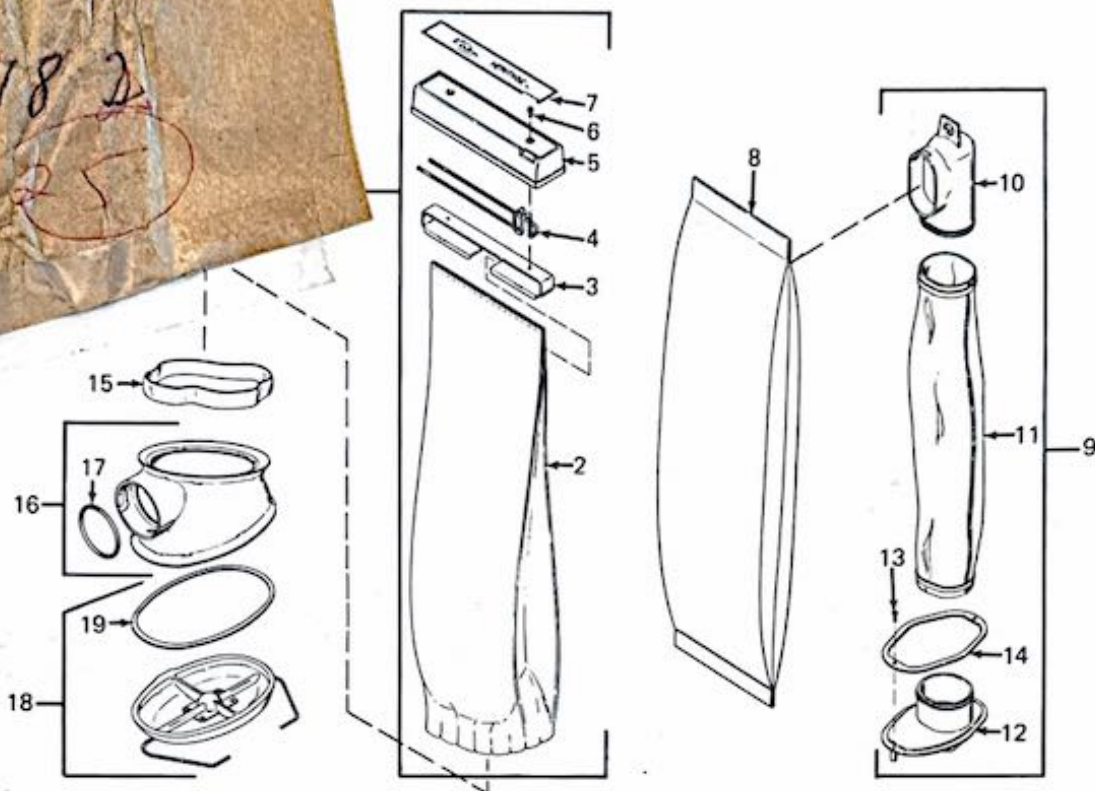
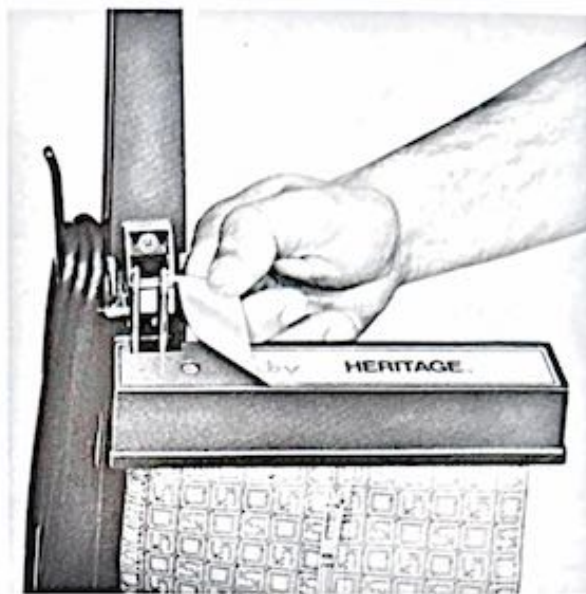
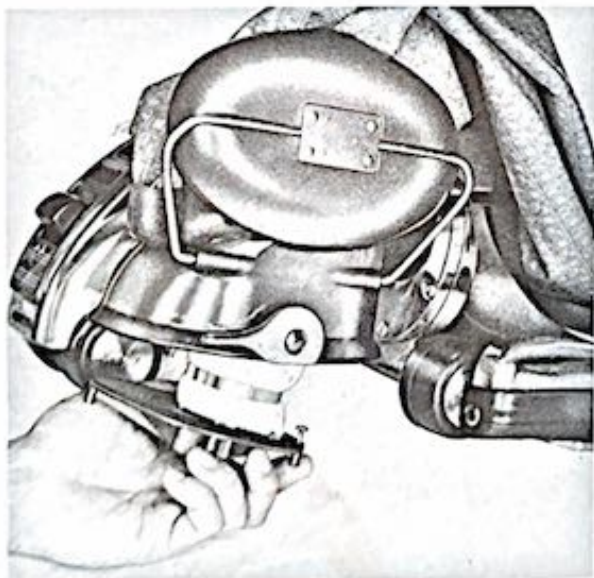

Figure 4-1. HERITAGE Sani-Em-Tor and bag group, with disposable bag, exploded view
Figure 4-2. Label on top cover and mounting screw
Figure 4-5. Filler tube and adapter cover through bottom of Sani-Em-Tor body
The exploded view illustration in figure 4-1 shows all available parts for the Sani-Em-Tor and Bag Group with disposable bag and adapter of the HERITAGE. The parts are drawn in proper relationship to each other to serve as an aid to disassembly and reassembly. Note the following:
(1) Unscrew the Sani-Em-Tor to remove it from the motor unit.
(2) Lift label (7, fig. 4-1) to access cover mounting screws (6) as shown in figure 4-2.
(3) Remove both screws to remove top cover (5, fig. 4-1), wire hanger (4), and support hanger (3) from bag (2).
(4) Pull up bag guard (15), and slide it along and off the bag. Stretch the spring in the bottom of the bag and remove the bag from the Sani-Em-Tor.
(2) Slide bag guard (15, fig. 4-1) over the bag and pull it down around the bag bottom to seal the bag to the Sani-Em-Tor.
(3) Slide the legs of support hanger (3) between the folds on each side of the bag. Install
a. Removal. If a pocket bag is used on the unit, the bag must be removed as described in paragraph 4-2. If a zipper bag is used, detach wire hanger (4) from hanger bracket (4, fig. 3-1), unzip the bag and fold the sides out of the way to pull filler tube (11, fig. 4-1) out of the bag, as shown in figure 4-4. Remove the two screws (13, fig. 4-1) and drop the adapter collar (12) through the Sani-Em-Tor body and out the opened bottom tray as shown in figure 4-5.
(1) With the bottom tray (18, fig. 4-1) of the Sani-Em-Tor open, slip the filler tube up into the bag, and secure the collar in place with mounting screws (13).
(2) Attach the filler tube to the elastic hanger in the top of the bag. If a pocket bag is used, reinstall the bag onto the Sani-Em-Tor as described in paragraph 4-2. If a zipper bag is used, zip the bag closed and attach it to the hanger bracket.
(1) Release the bail on Sani-Em-Tor bottom tray (18, fig. 4-1) and open the bottom tray. Disengage the ends of the bail from the Sani-Em-Tor body and remove the bottom tray.
(1) If body gasket (17, fig. 4-1) is worn, cracked, or gouged, use a knife or screwdriver to remove the gasket from Sani-Em-Tor body (16).
(1) Worn or damaged bag. Replace if necessary.
(2) Bag agitation, possibly from bumping the bag into furniture while the motor is running.
(3) Poor seal at the Sani-Em-Tor body. Check the condition of bag guard (15, fig. 4-1) and its position on the bag. Check the condition of the elastic at the bottom of the bag. Replace the bag if the elastic is stretched or damaged.
(1) Check that Sani-Em-Tor bottom tray (18, fig. 4-1) is correctly aligned and tightly installed on Sani-Em-Tor body (16).
(2) Use a brush to clean bottom tray gasket (19) on the tray. If the gasket is damaged or no longer seals tightly, replace it as described in paragraph 4-4.